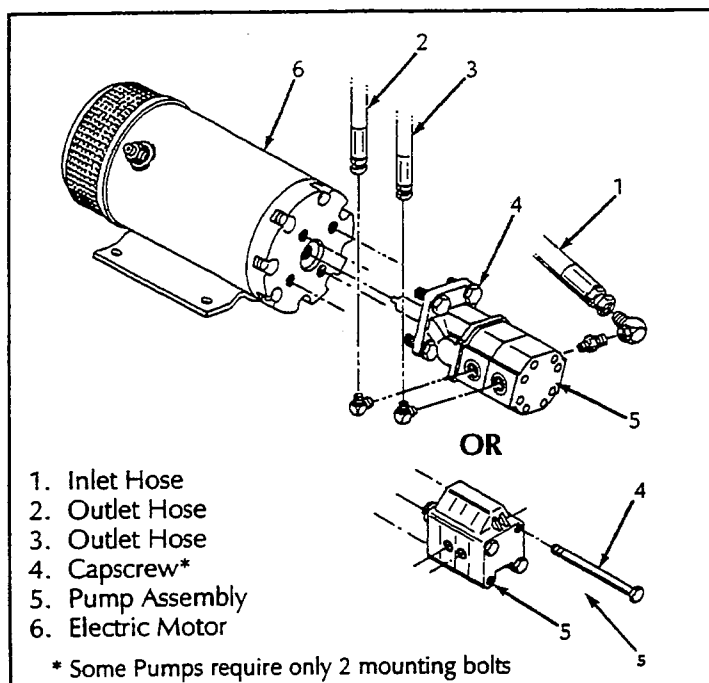

Figure 4-10: Hydraulic Pump
4.8 Hydraulic Pump (Figure 4-10)